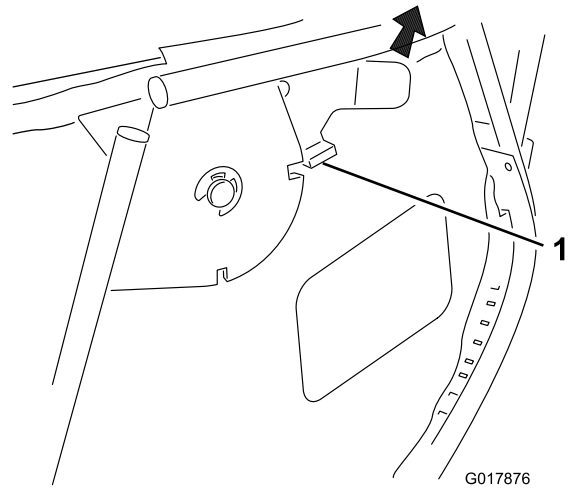

Figure 17
1. Disengage the locking latch (Figure 17).